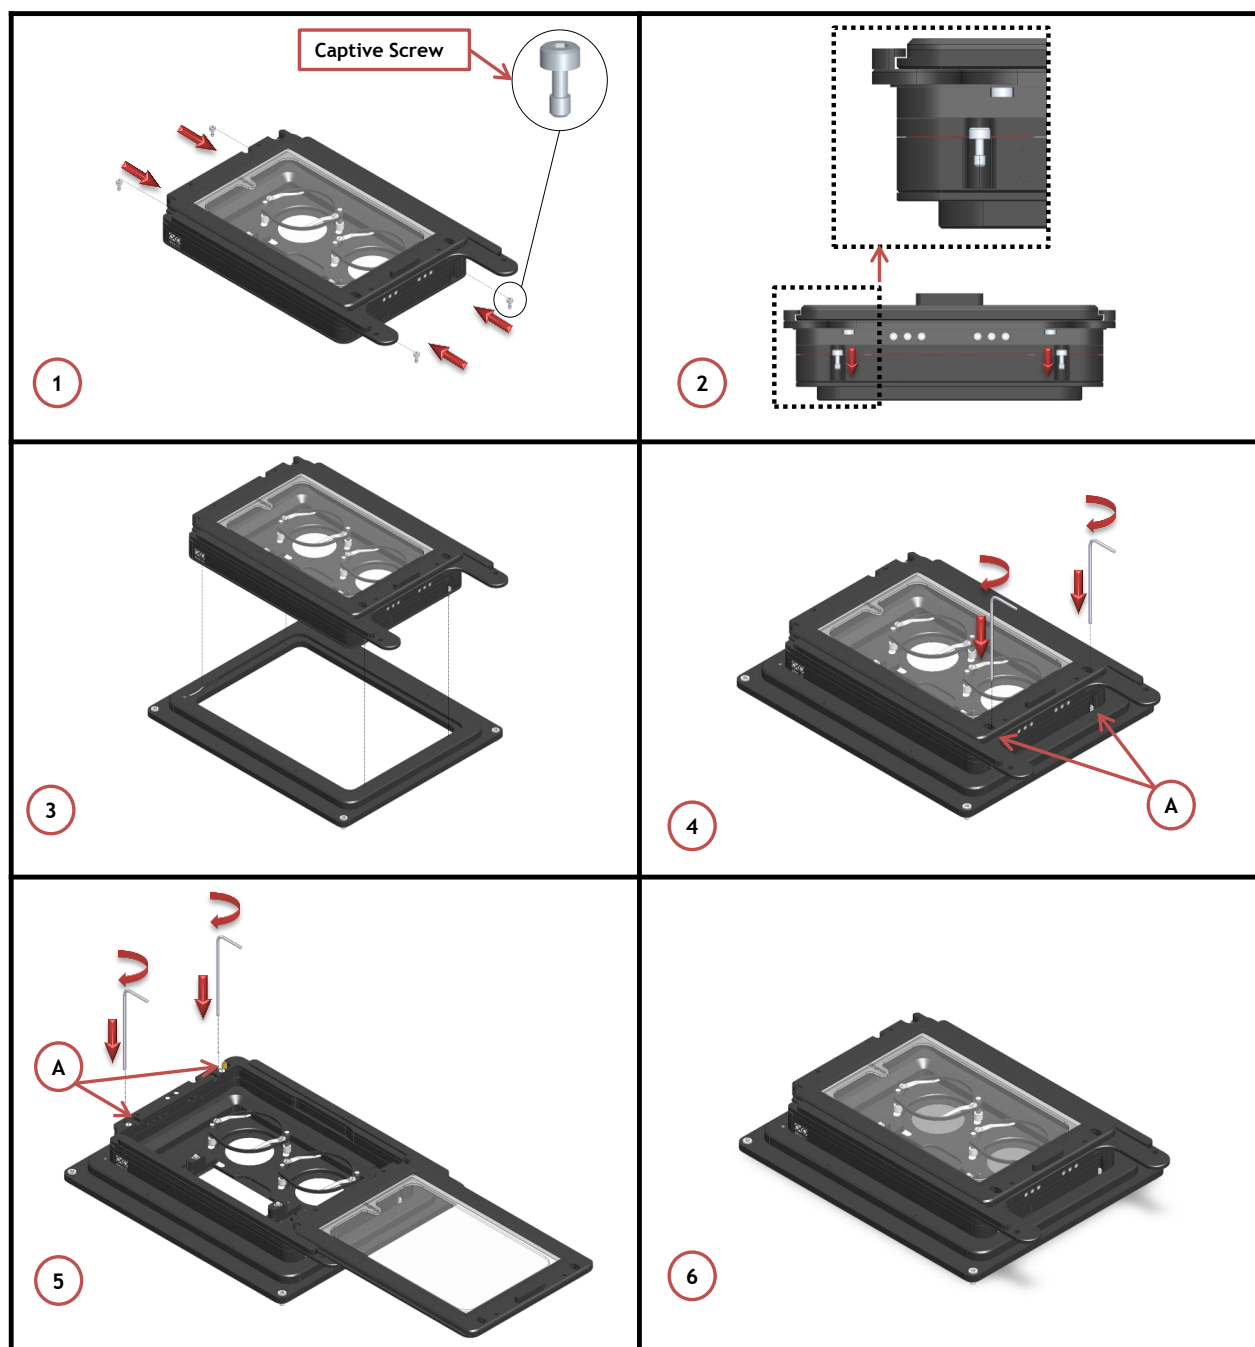

Figure 20. How to assemble the chamber to the adapter.
Follow the steps shown in the images of Figure 20 and listed below in order to correctly connect the chamber with its adapter:
1. Follow the arrows shown in Figure 20 Images 1 and 2 for placing the captive screws in the proper housings
2. Place the chamber on the adapter as shown in, Figure 20 Image 3
3. Use a 1.5mm metric Allen Wrench to tighten two of the four captive screws in place (A in Image 4) while keeping the sliding lid closed. (See Figure 20 Image 4)
5. Image 6 of Figure 20 shows the chamber fixed on the adapter